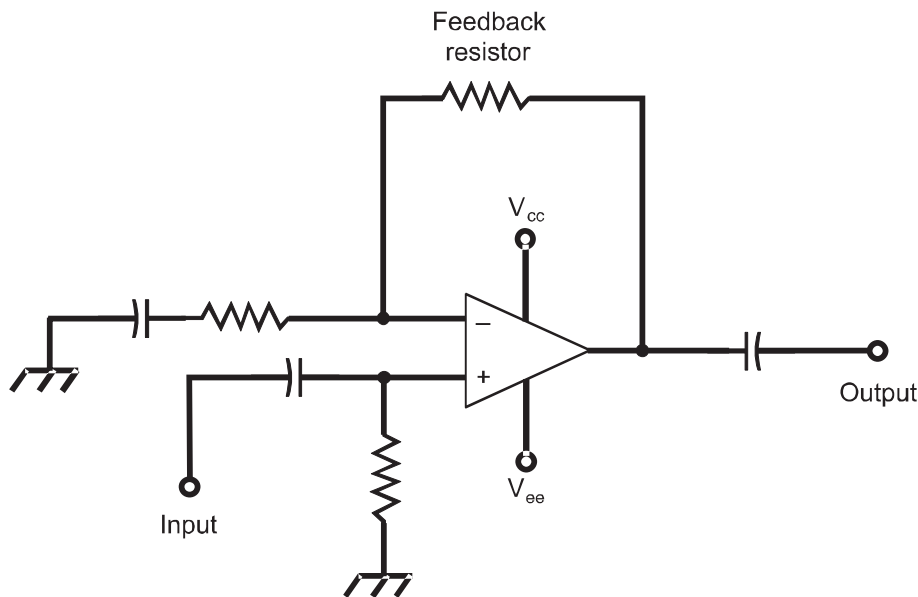

Fig. 6-18. Closed-loop op amp circuit.
*configuration*). A basic closed-loop amplifier using an op amp is shown in Fig. 6-18. If the resistor is connected between the output and the noninverting input, positive feedback occurs. If the resistor is set for the correct value, oscillation takes place.